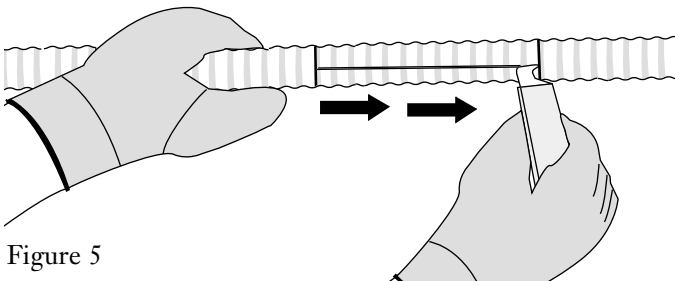

Figure 5
4.5 Using the hook blade, slit the 10 cm (4 in) length of outer sheath between the ring cuts (Figure 5).